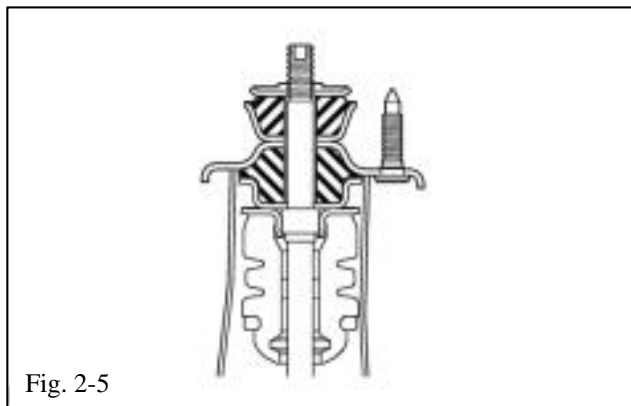

Fig. 2-5
- (h) Ensure the cushions and washer (lip turned up) are assembled in the correct direction and order (Fig. 2-5).